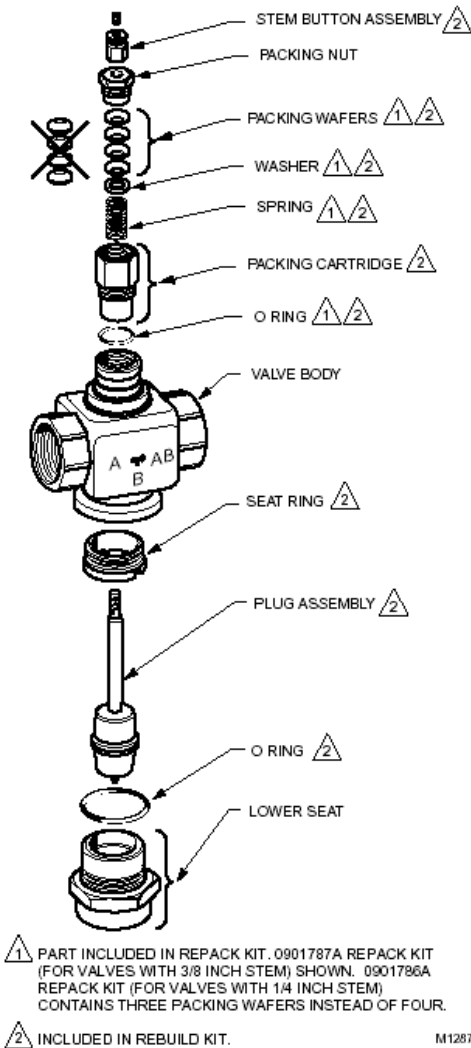

Fig. 3. V5013P replacement parts.
**Replacement Parts:** See Fig. 3 and Table 3.